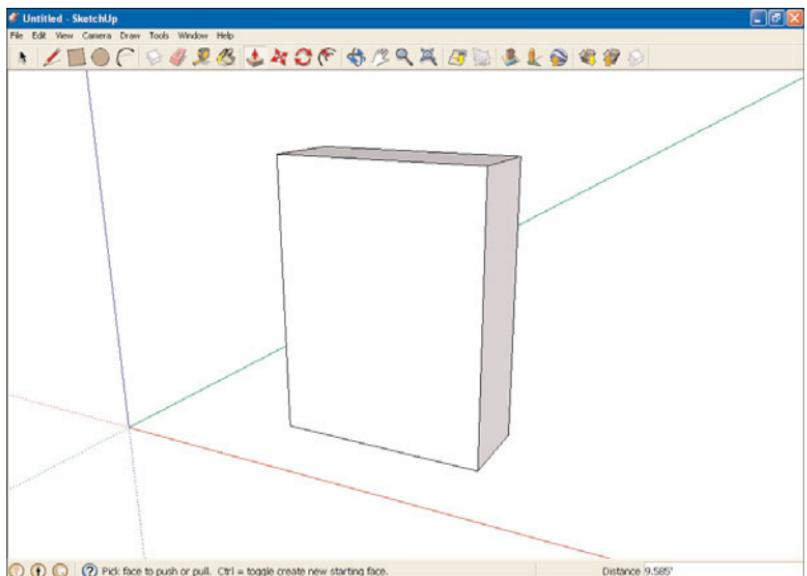

FIGURE 5.9 A 3D wall.
Suppose you've just drawn a rectangle that represents a wall. For example, see the wall in Figure 5.9.
2. Draw the 3D wall, such as the one you see in Figure 5.9.